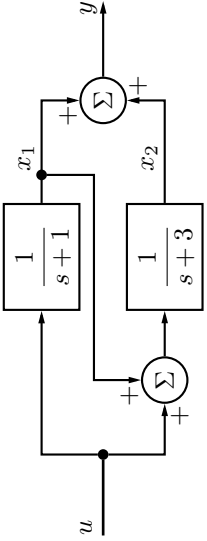

Figure 8.14a
8.14 A system is given by the block diagram in Figure 8.14a. Derive a state space model of the system, with the state space variables given in the figure.